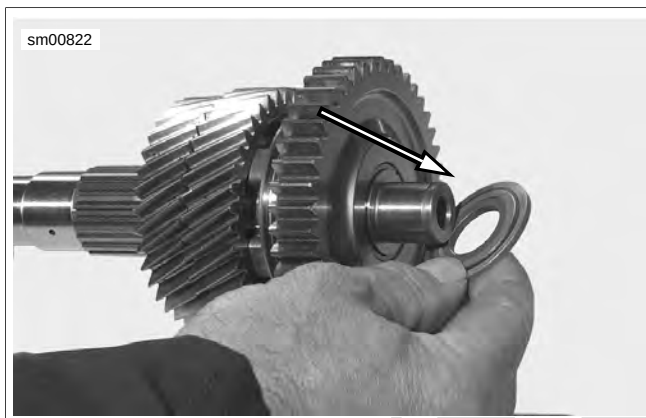

Figure 6-119. Thrust Washer
1. See Figure 6-119. Check position of stepped thrust washer. Step should face 1st gear, flat side toward bearing.